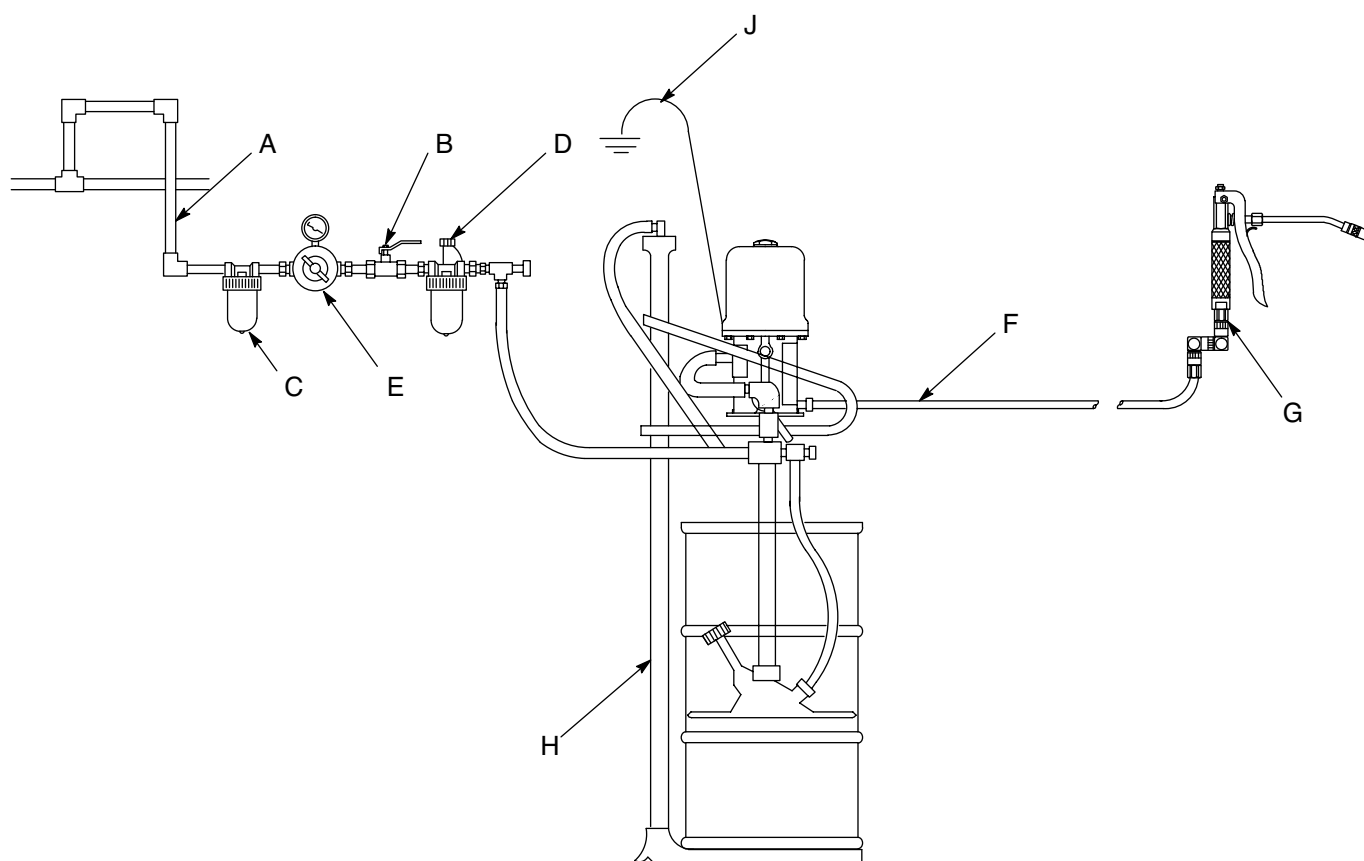

FIG. 2: Typical Installation
Install the air line accessories in the approximate order shown in FIG. 2. Install a bleed-type master air valve (B) within easy reach of the pump, upstream from the air regulator (E). Install an air filter (C) to remove harmful dirt and moisture from your compressed air supply. For automatic air motor lubrication, install an air line oiler (D) close to the pump air inlet. Install and air regulator (E) to control the pump speed.
The installation shown in FIG. 2 is only a guide for selecting and installing system components and accessories. Contact your Graco distributor for assistance in designing a system to suit your particular needs.
Use the air regulator (E) to control the pump speed and fluid pressure. See FIG. 2. Always use the lowest pressure necessary to obtain the desired results.